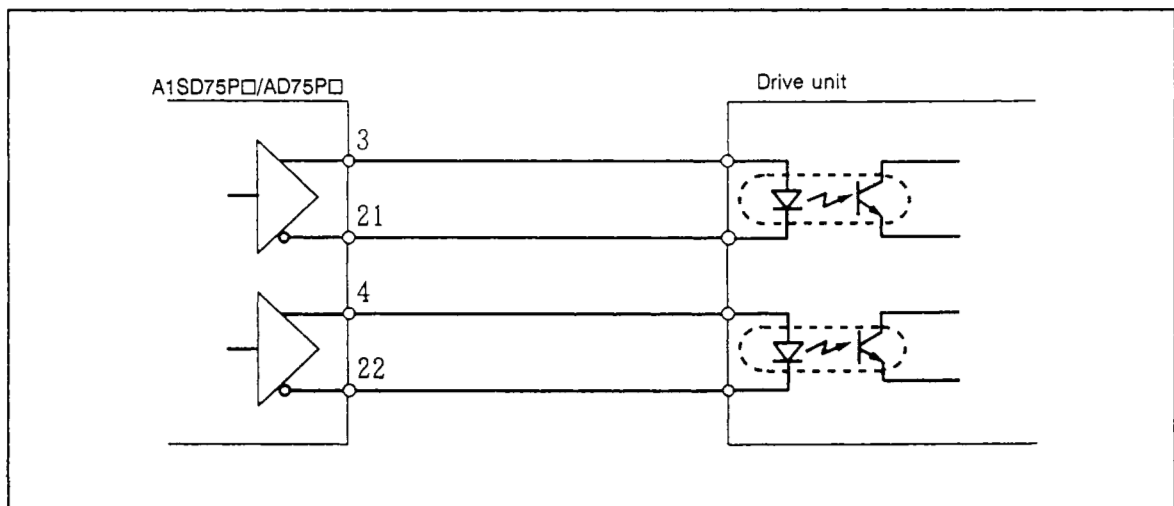

Fig. 1 Example of connection to A1SD75P□/AD75P□ differential driver
- Connection of the A1SD75P□/AD75P□ and drive unit with a differential driver method is recommended to increase the noise margin. (Refer to Fig. 1.)
- When connecting the A1SD75P□/AD75P□ and a Mitsubishi servo amplifier, the logic can be changed with the servo amplifier parameter settings. However, the normal wiring shown in Figs. 1 and 2 must be used.